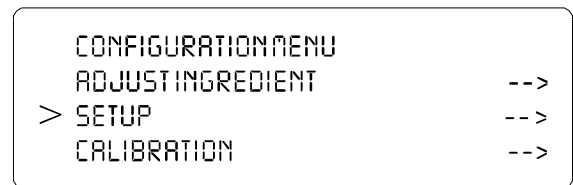

FIG. 131: CONFIGURATION MENU/SELECTING SETUP
- Step 1. At the front panel click on the Setup/3 button. The Configuration Menu appears. (See Fig. 131)